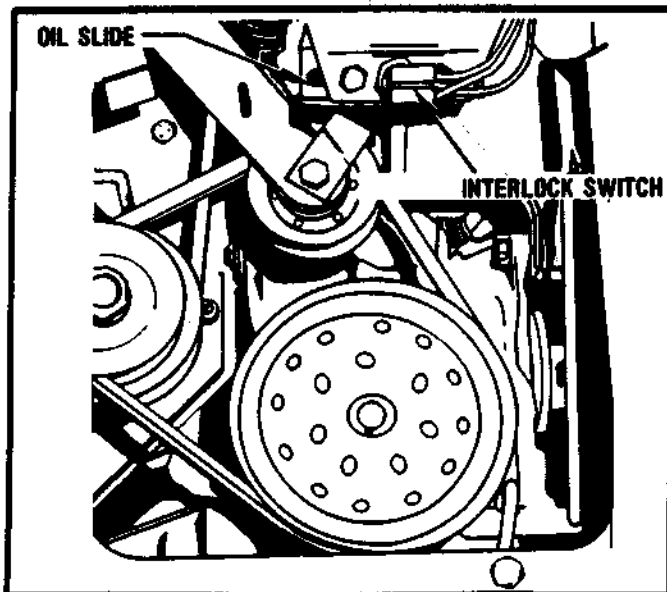

FIGURE 25
2. Lubricate slide for shift interlock switch. See Figure 25.